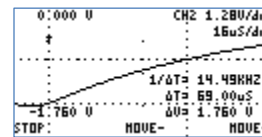

Figure 61: Half-life measurement
- 12) The display should look like figure 61. The measured time, $T_{1/2} = 69\mu s$, is the "half-life" time, so $RC = 9.95\mu s$